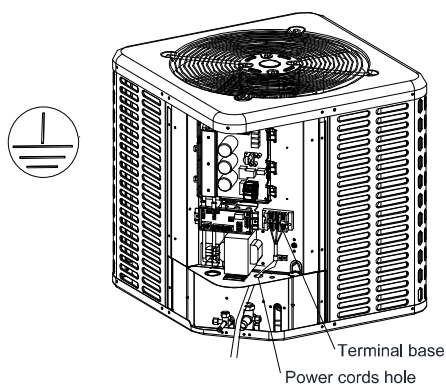

Figure 13-3
2. Firstly thread the power cords (L1, L2) and ground wire through the power cords hole. Secondly connect L1, L2 and ground wire to terminals of the AC contactor properly one by one. Finally fasten the pipe of the power cords and ground wire. Refer to Figure 13-3.